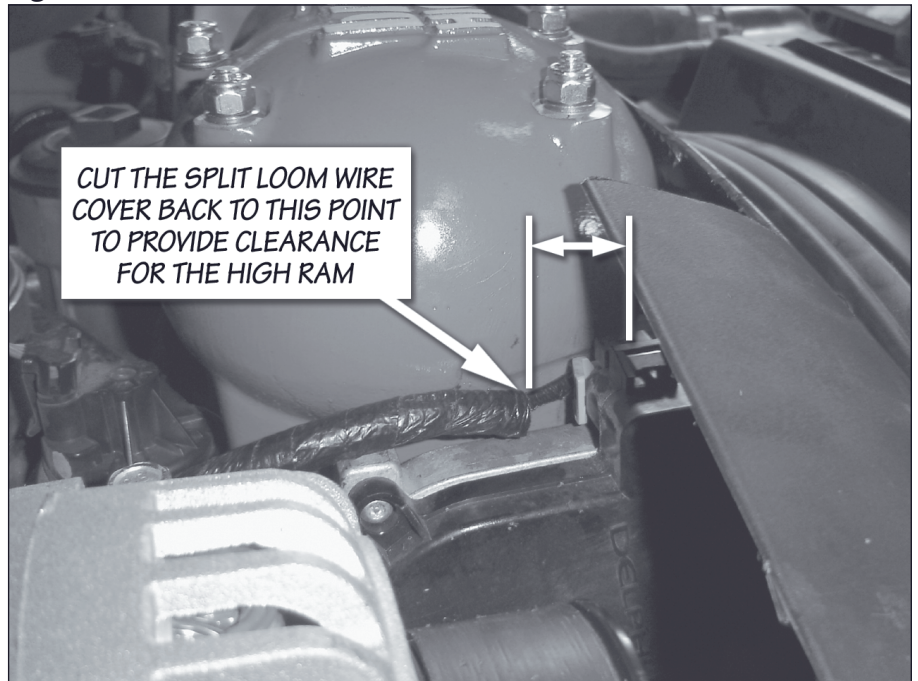

Figure 14
54. Install the supplied o-rings on the two driver side studs as shown in the exploded view in **Figure 14**. Slide the o-rings down to the base of the intake manifold.
57. Place the thread sealing washers on the two driver side studs. Use a twisting motion to thread the sealing washers over the threaded portion of the studs to avoid tearing the seals. Install standard flat washers on the passenger side studs and on top of the thread sealing washers, as shown in **Figure 14**.